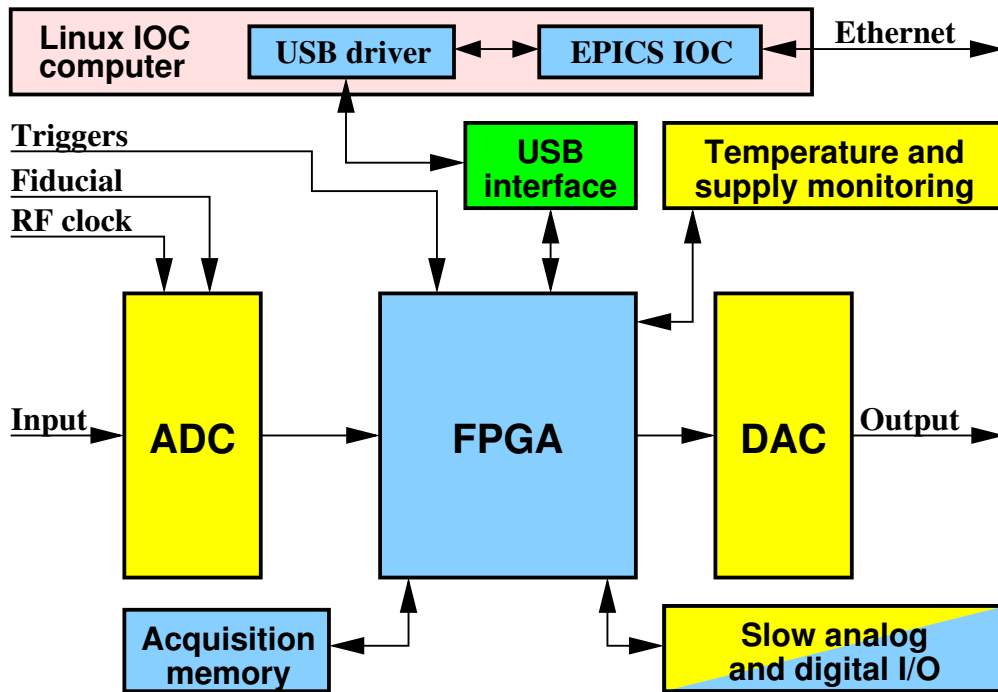

Figure 1: iGp12-592F block diagram
A top-level block diagram of the iGp12-592F system is shown in Figure 1. The main signal processing chain consists of a high-speed 12-bit **analog-to-digital converter (ADC)**, a **field programmable gate array (FPGA)**, and a high-speed 12-bit **DAC**, all driven by the **radio frequency (RF)** clock. In addition to performing real-time control computations, the **FPGA** interfaces to a number of on-board devices, such as high-speed data acquisition memory (**static random access memory (SRAM)**), low-speed analog and digital **input/output (I/O)**, as well as temperature and supply voltage monitors. In turn, the **FPGA** uses an internal **universal serial bus (USB)** connection to communicate to an embedded **input-output controller (IOC)** computer housed in the same chassis. The **IOC** runs the **Linux** operating system and is connected to the overall control system via the **Ethernet**.